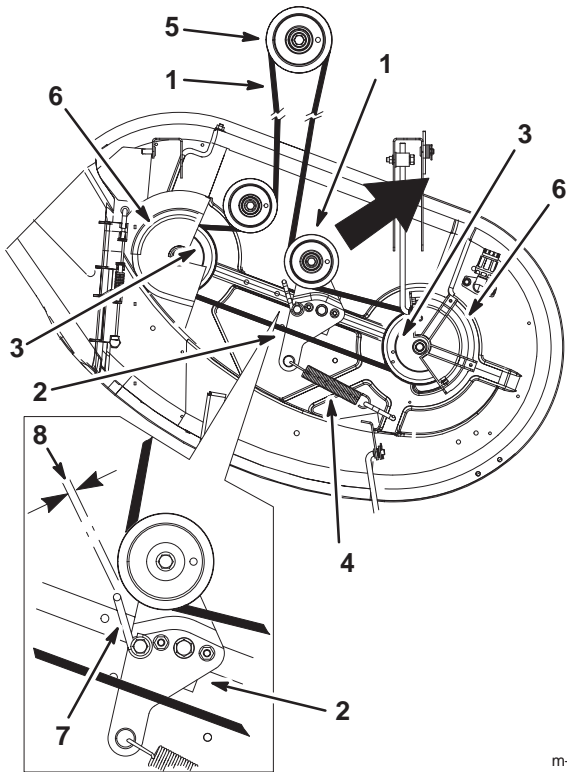

Figure 46
5. Pull the idler pulley in the direction shown in Figure 46 and roll the belt off of the pulleys.
6. Route the new belt around the engine pulley and mower pulleys. Refer to Figure 46 for the correct routing.
7. Pull the idler pulley in the direction shown in Figure 46 and route the belt onto the idler pulley (Fig. 46).
8. Rotate the belt guide, on the idler arm, so it is 1/32 to 1/8 inch (0.8–3 mm) away from the side of the mower belt (Fig. 46).